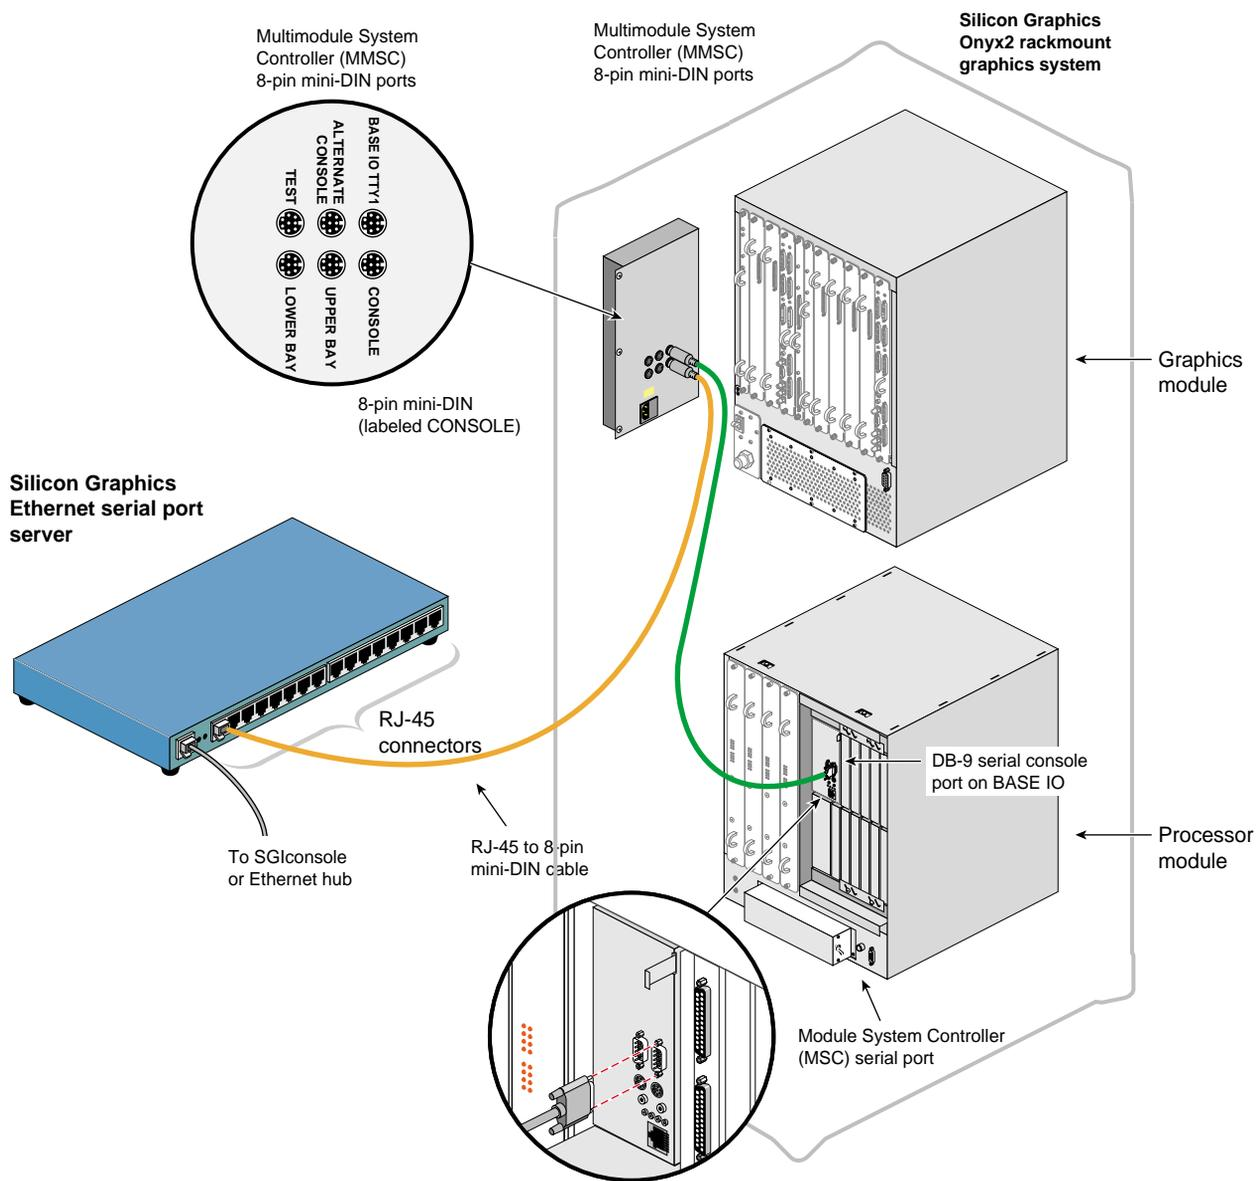

Figure 5-34 Connecting the MMSC Base I/O TTY1 to the Processor Module tty_1, Console Connector
7. Connect the 8-pin mini-DIN connector end of one of the 8-pin mini-DIN to DB-9 cables to the 8-pin connector on the MMSC labeled "BASE IO TTY1." Connect the DB-9 connector end of this same cable to the serial port connector labeled "tty_1, Console" of the Silicon Graphics Onyx2 rackmount graphics system processor module located in the lower bay of the rack. See Figure 5-34.